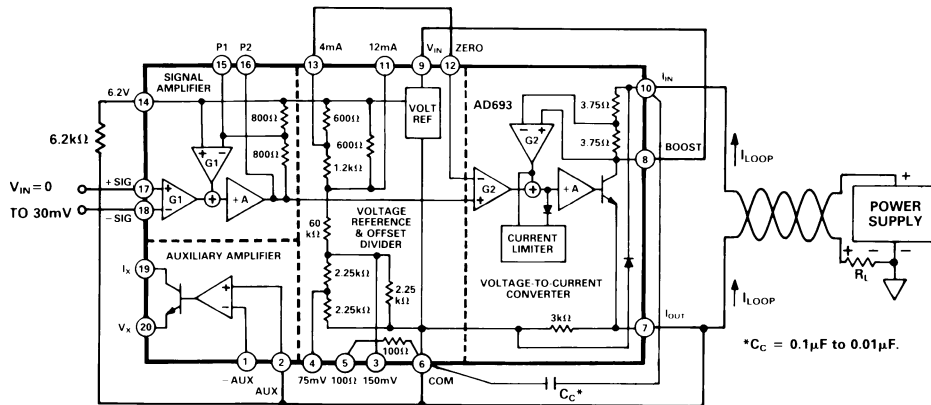

Figure 10. Minimal Connection for 0–30 mV Unipolar Input, 4–20 mA Output
- The operational voltage (V_{OP}) is the voltage directly across the AD693 (Pin 10 to 6 in two-wire mode, Pin 9 to 6 in local power mode). For example, $V_{OP} = V_S - (I_{LOOP} \times R_L)$ in two-wire mode (refer to Figure 10).
Figure 10 shows the minimal connections for basic operation: 0–30 mV input span, 4–20 mA output span in the two-wire, loop-powered mode. If not used for external excitation, the 6.2 V reference should be loaded by approximately 1 mA (6.2 kΩ to common).